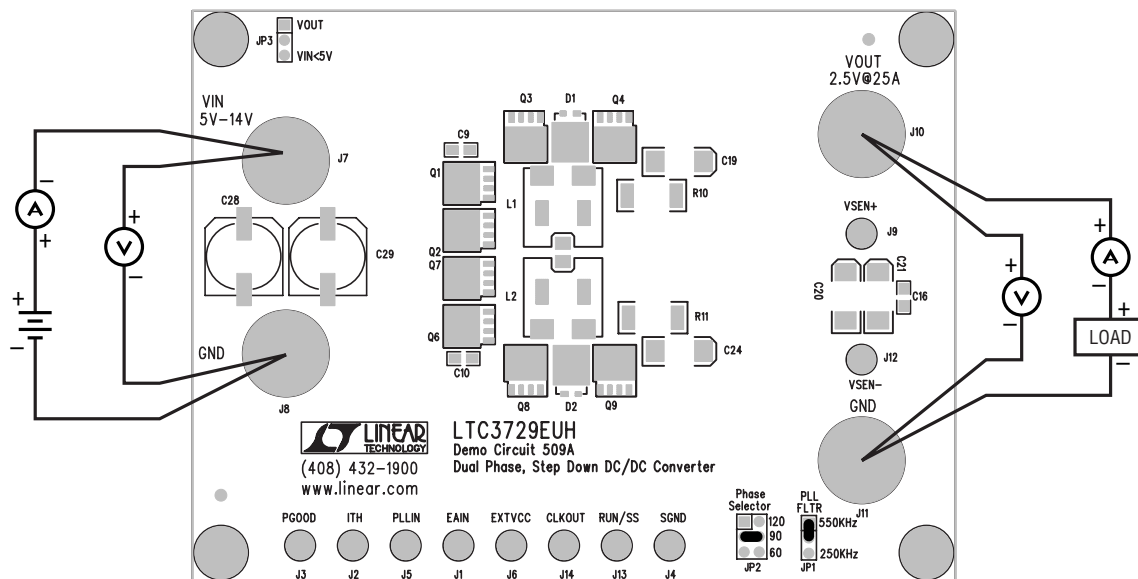

Figure 1. Proper Setup for Measurement Equipment
Demonstration circuit 509 is easy to set up to evaluate the performance of the LTC3729EUH. Refer to Figure 1 for proper measurement equipment setup and follow the procedure below:
2. The jumpers should be placed in their default positions as shown in Figure 1.